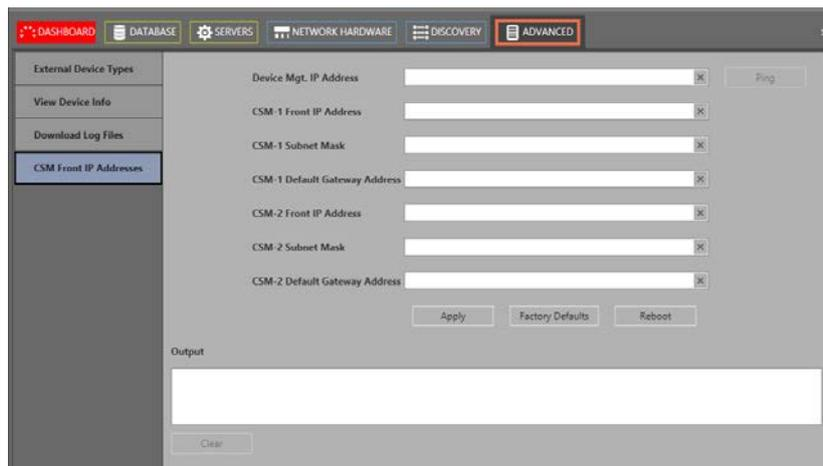

Figure 23 Advanced Tab: CSM Front IP Addresses
- In Figure 23 in the 'Device Mgt. IP Address field', just fill out the Mgt. IP address (*) of the node with the CSM that must be have another IP configuration. Click 'Ping' to check whether the HiProvision PC can reach the node;
2. In Figure 23, Fill out the current IP address of the device (or CSM that was already configured) in the 'Device Mgt. IP Address' field and Click 'Ping' to check whether the HiProvision PC can reach the device;
2. In Figure 23, Fill out the current IP address of the device that must be reset to factory defaults and click 'Ping' to check whether the HiProvision PC can reach the node;